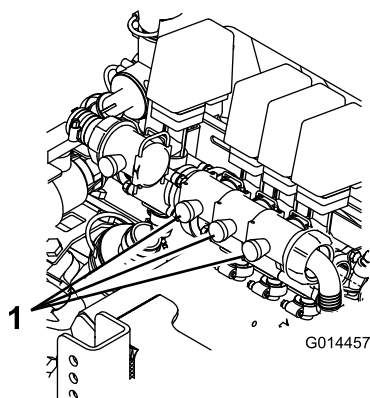

Figure 4
11. Adjust the boom bypass valve (Figure 4) on the balancing valve assembly that corresponds to the boom that you turned off until the pressure reading on the gauge is the same as it was in step 8.